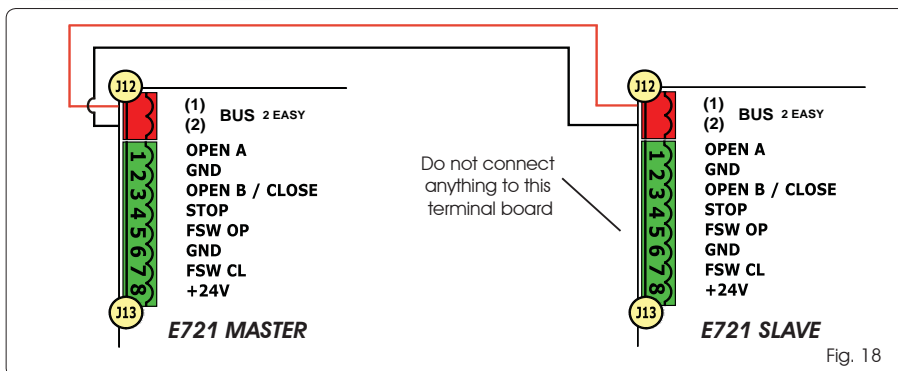

Fig. 18
-  **The BUS connection between the two boards must be POLARISED following the sequence of the poles of the J12 terminal board (POLE (1) - POLE (2)) - (see Fig. 18).**